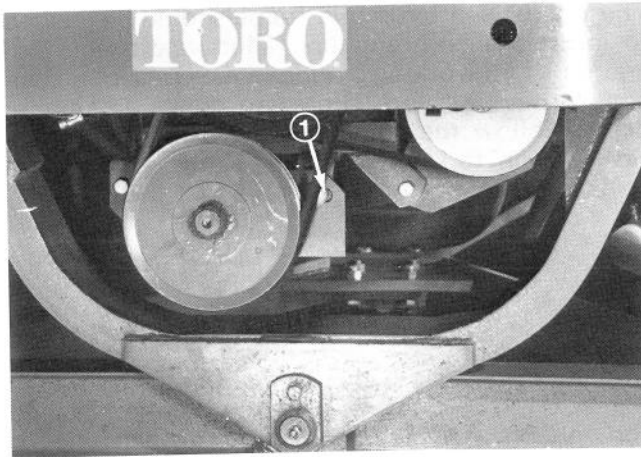

Figure 13 (Gasoline)
8. If either belt needs adjustment, loosen the pump mounting bracket bolts. Use a pry bar on the side of the pump closest to the slotted hole in the pump bracket. Pry the pump downward to achieve proper belt tension and tighten the mounting bolts (Figure 13).